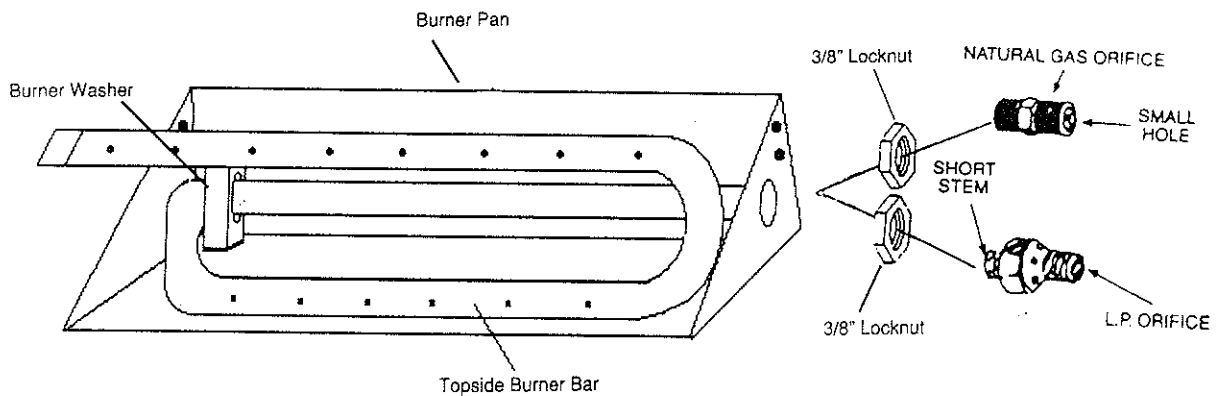

Figure 1
2. Place the topside burner bar through the burner washer and place it in the burner pan. (See Figure 1.)
- a) Connect the 3/8" x 3/8" Natural Gas orifice through the 3/8" locknut to the end of the burner bar using the pipe dope compound. (See Figure 1.)
- a) Connect the air shutter orifice through the 3/8" locknut to the end of the burner bar using the pipe dope compound. (Be sure to place short stem into the burner bar.) (See Figure 1.)